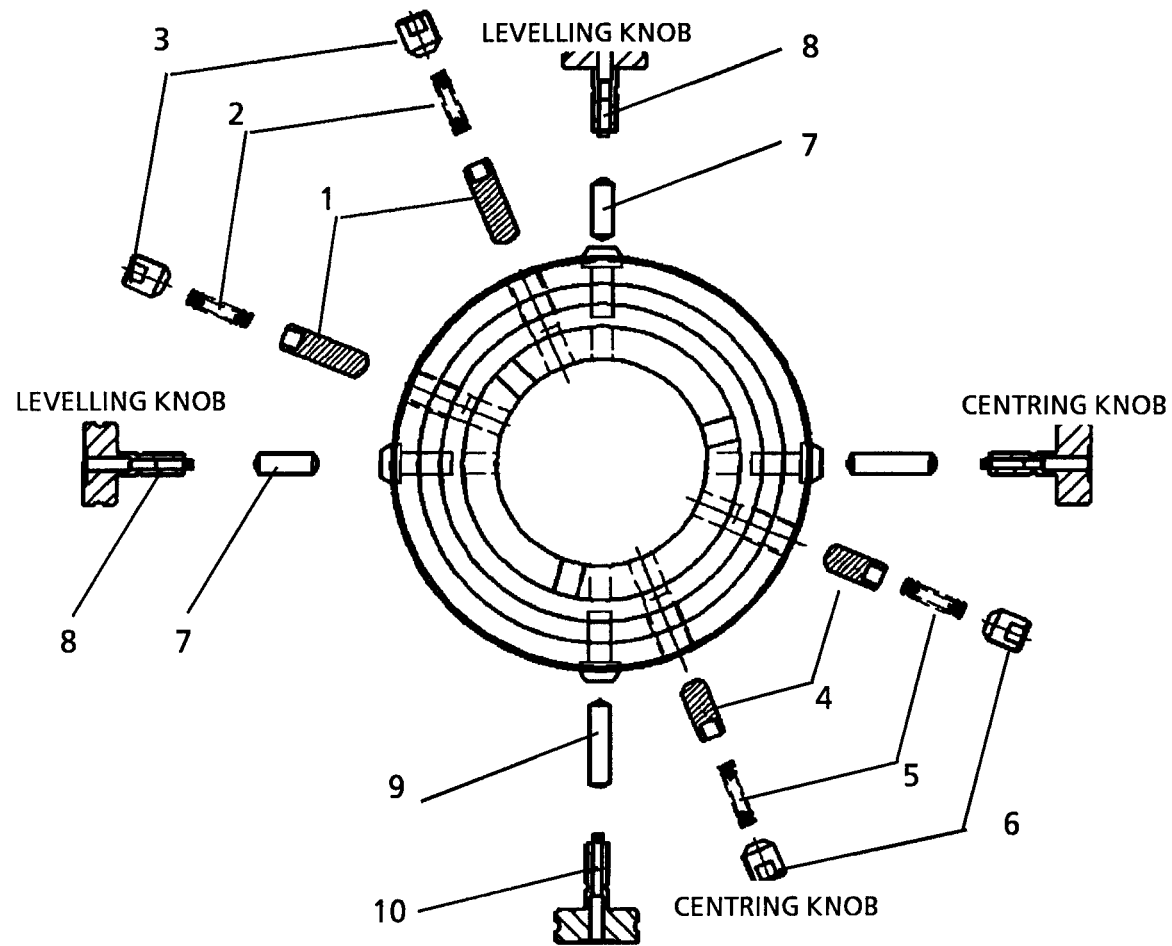

Fig 3.12 Reassembly of the C & L Table
3.9.3 Referring to Fig 3.12 place the datum bar side cover 47/2806 over the rack and holding the rack and the datum bar side cover together, slide them both into the recesses in the aluminium datum bar from the right hand end as shown.